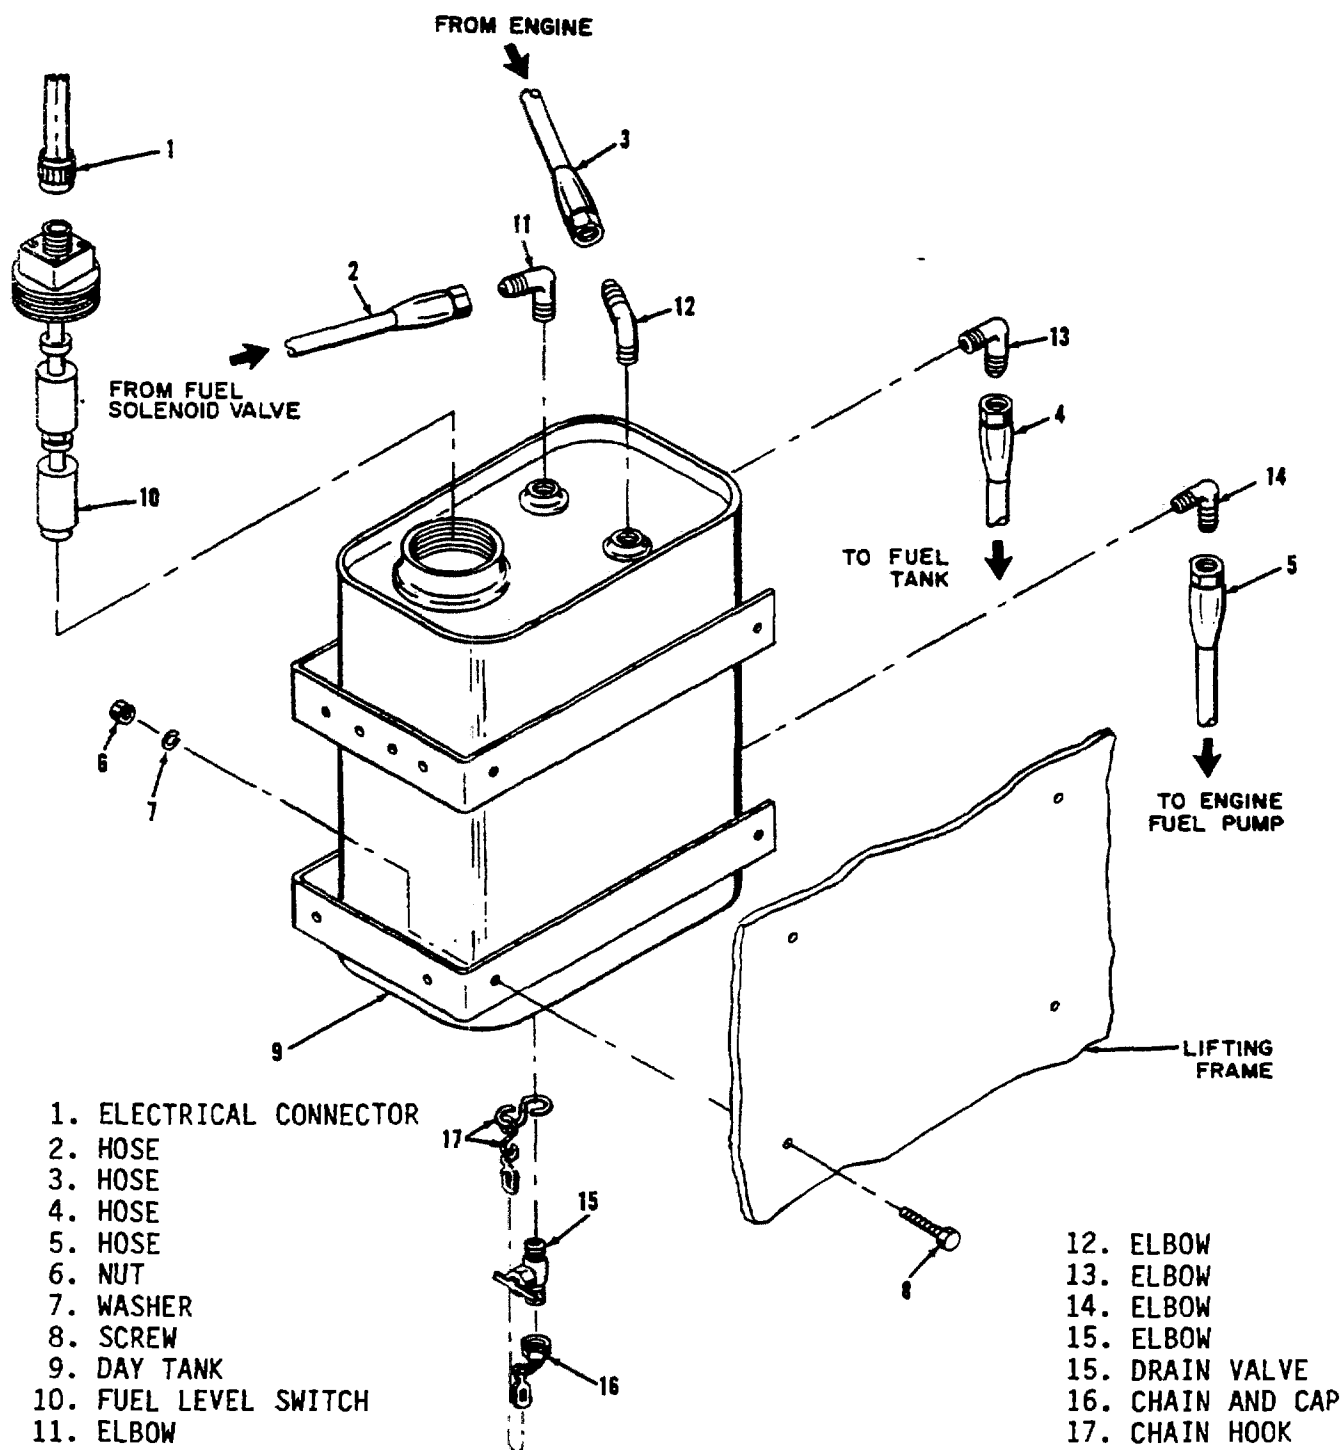

Figure 4-46. Fuel Level Switch and Day Tank, Exploded View
4-89. FUEL LEVEL SWITCHES FL1 AND FL2. The following paragraphs provide inspection, test, service, and replacement instructions for either of fuel level switches FL1 or FL2 (figure 4-46).
(1) Remove electrical connector (1, figure 4-46) from fuel level switch (10).
(2) Unscrew fuel level switch (10) from day tank (9).
(3) Check float switch to make sure there is no fuel in the floats. Check for worn or damaged threads.
(4) Install fuel level switch (10), then connect electrical connector (1).
(1) Remove electrical connector (1, figure 4-46) from fuel level switch (10), then unscrew switch from day tank (9).
(2) Support switch in vertical position (electrical connector on top). Connect an ohmmeter between connector pins C and D. Meter should indicate continuity. Raise lower float to upper limit. Meter should not indicate continuity.
(3) Connect ohmmeter between pins A and B. Meter should indicate continuity. Raise upper float to upper limit. Meter should not indicate continuity.
(4) Replace fuel level switch (10) (if defective) then connect electrical connector (1).
(1) Remove fuel level switch (figure 4-46) as explained in step a, above.
(3) Install new fuel level switch (10) in day tank (9), then connect electrical connector (1).